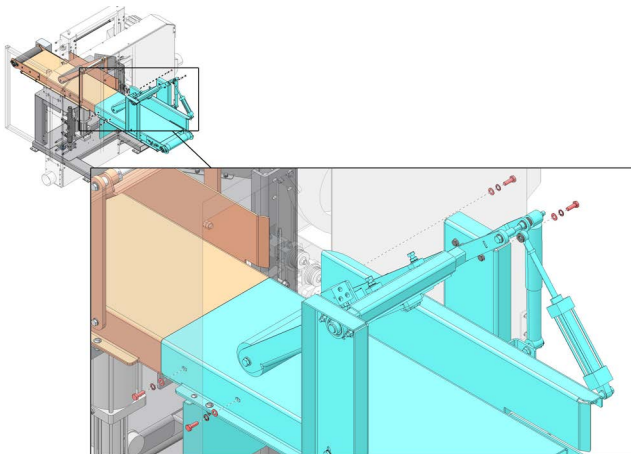

FIG. 3-3
- Attach infeed section using (4) M10 1.5x30 HH bolts, (4) 10mm split lock washers, and (4) M10 flat washers. See FIG. 3-3